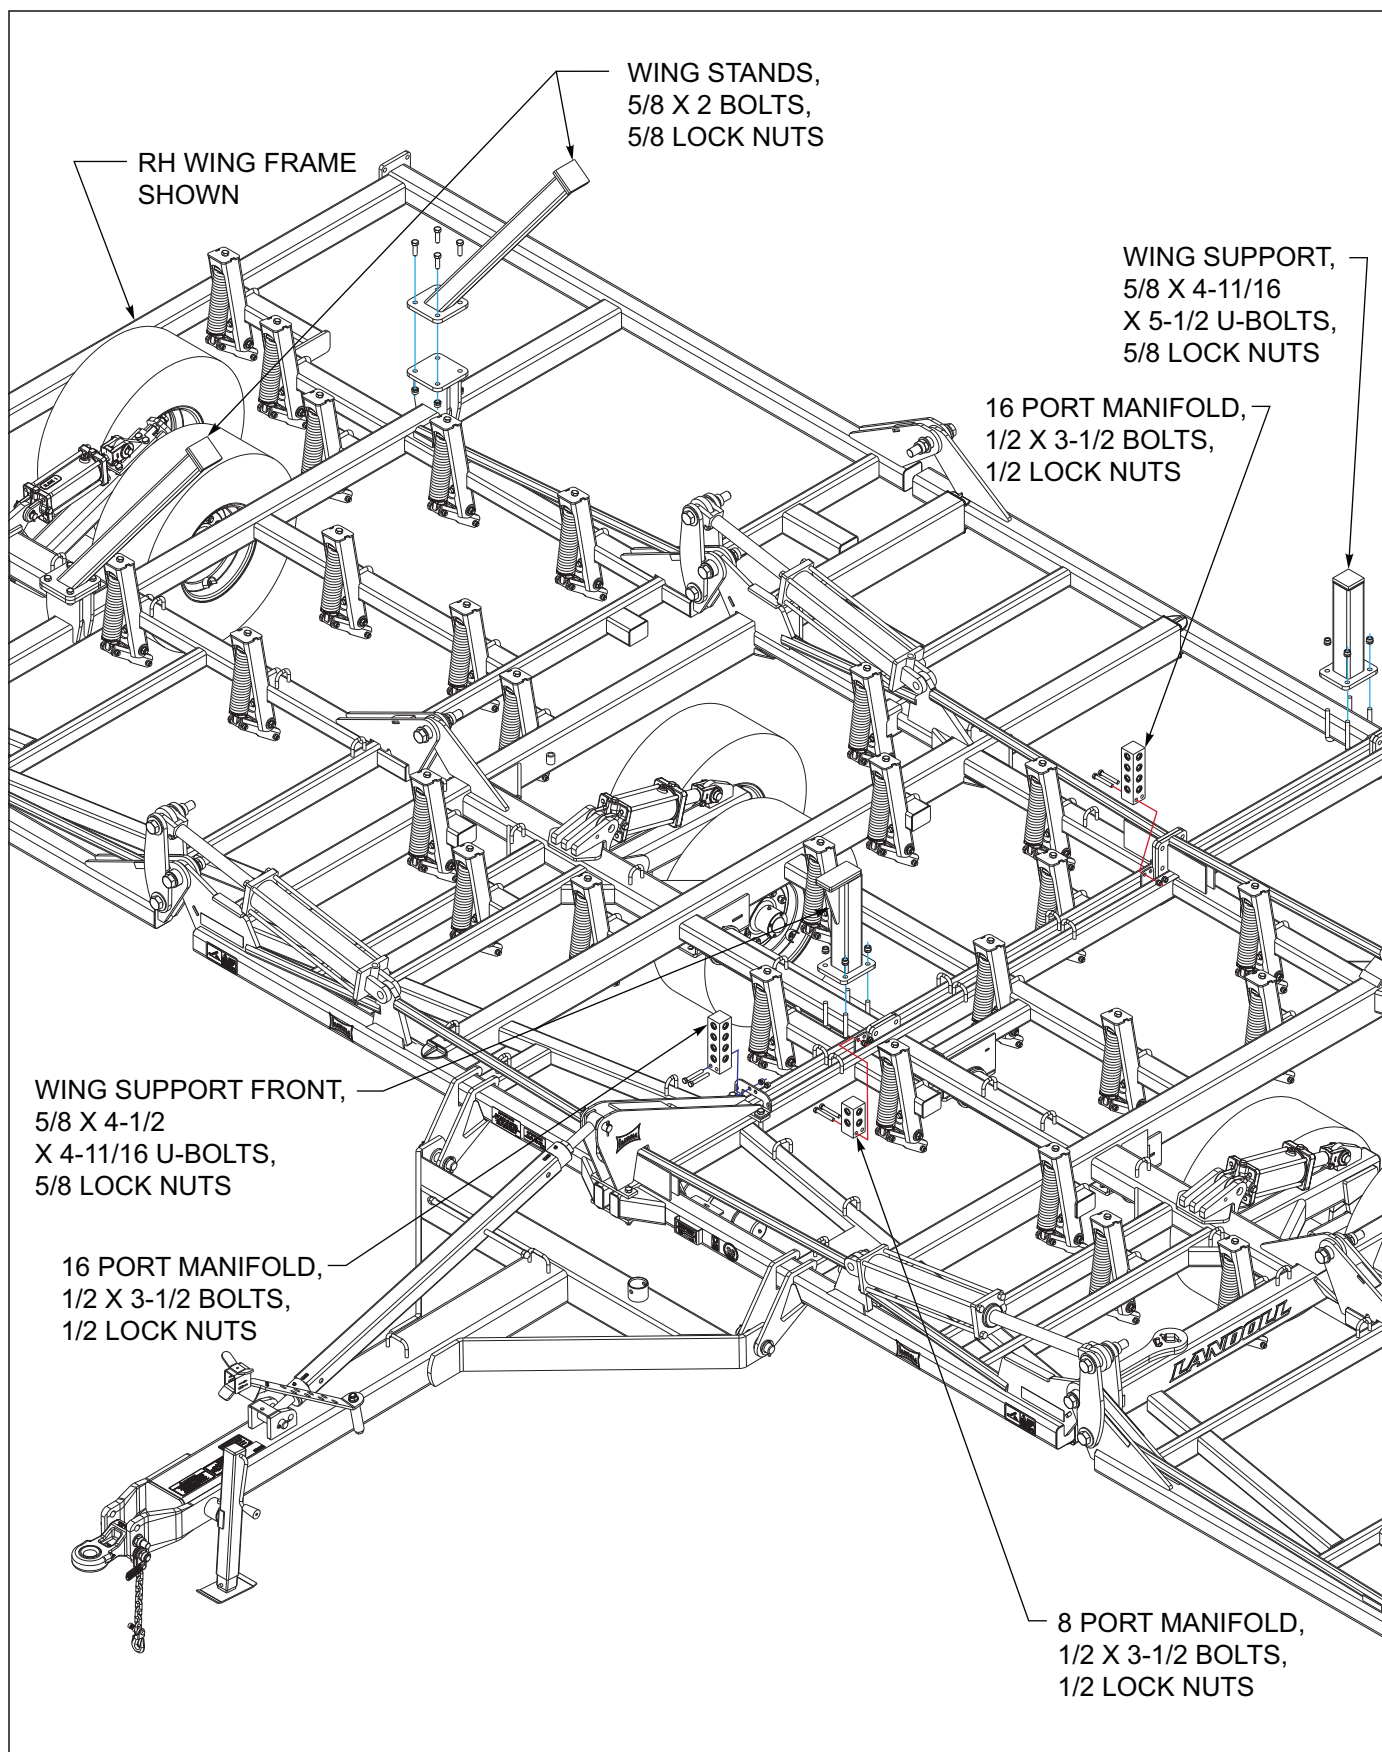

Figure 3-8: Wing Support Assembly 35'
2. **See Figure 3-8** for 35' models, assemble the wing supports to the RH center frame using 5/8 x 4-11/16 x 5-1/2 u-bolt, rear, 5/8 x 4-11/16 x 4-1/2 u-bolt, front and 5/8 lock nuts and to the RH wing frame using 5/8 x 2 bolts and lock nuts (**See “Wing Supports Placement 35' RH” on page 3-15.**).